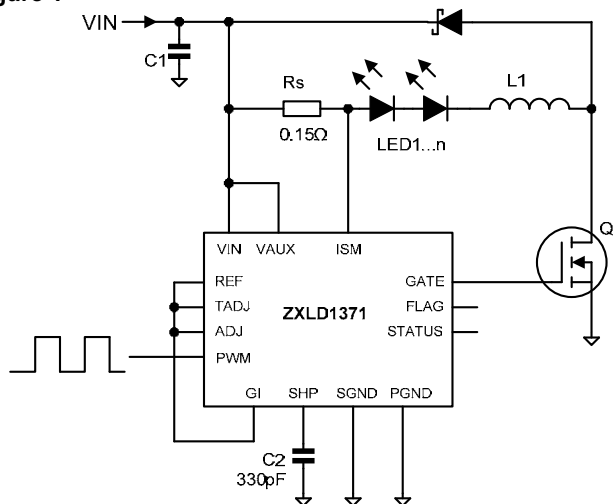

Figure 1. Buck configuration
a) Buck mode – the most simple buck circuit is shown in Figure 1